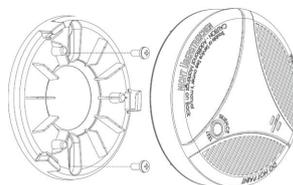

Figure 9-1: Mounting the bracket
8. Line up the slot of the bracket and the Smoke/CO detector. Push the Smoke/CO detector onto the mounting bracket and turn it clockwise to fix it into place, and when the bracket was installed would activate power for five-year type (SMAZB-143, SCAZB-143). Pull onward on the Smoke/CO detector to make sure it is securely attached to the mounting bracket, shown in Figure 9-1.